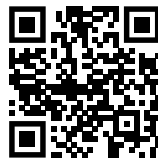

Fig. 127
- ▶ 请打开 Liebherr SmartMonitoring Dashboard。(参见 Fig. 127)